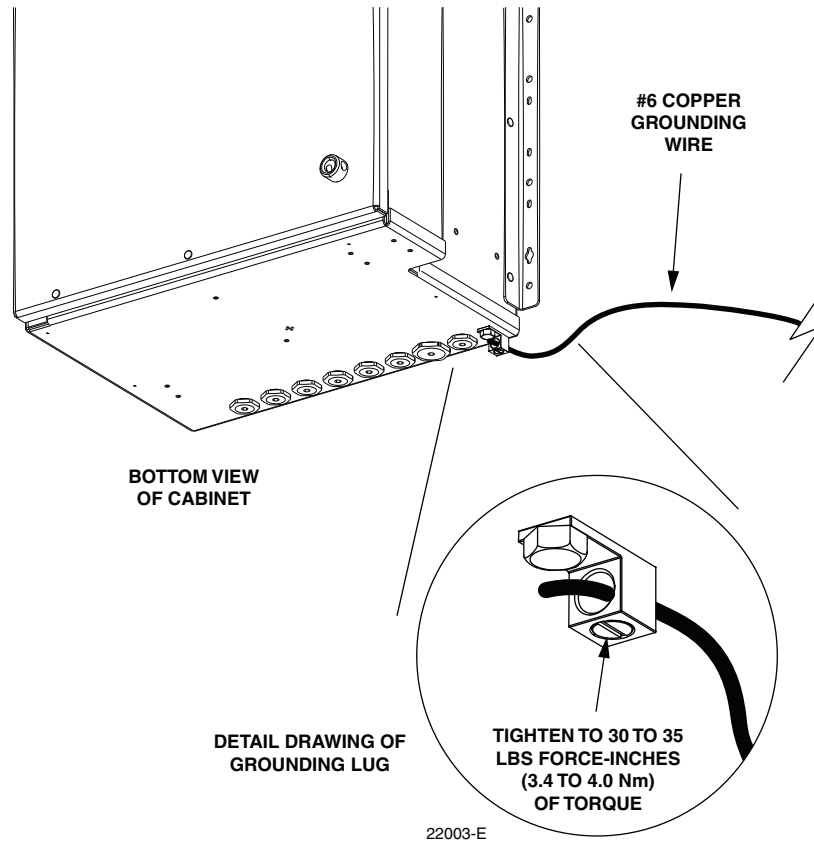

**Figure 9. Right Side Mounting Holes Accessible with Swing Frame Open**
17. Open the cabinet swing frame and install the remaining six right side rack screws as shown in Figure 9.